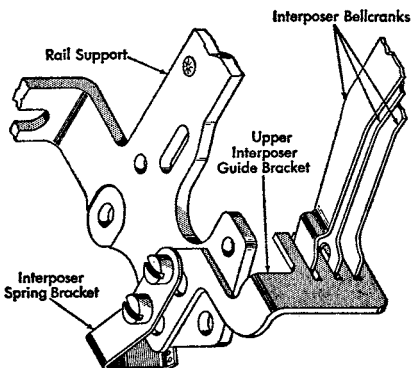

Figure 6. Upper Guide Bracket Adjustment
6. UPPER INTERPOSER BELLCRANK GUIDE BRACKET. Position this to its lower limit and lock it in place (Figure 6).
14. INTERPOSER SPRING BRACKET. Form this slightly to the rear for more tension on the interposer springs if the interposers restore sluggishly (Figure 6).